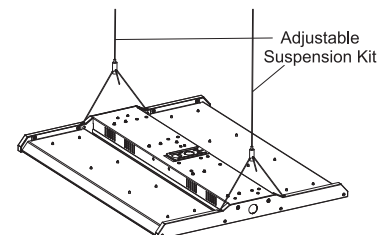

FIG. 2
4. Install the adjustable suspension kit to the fixture at both ends. Fig 2.